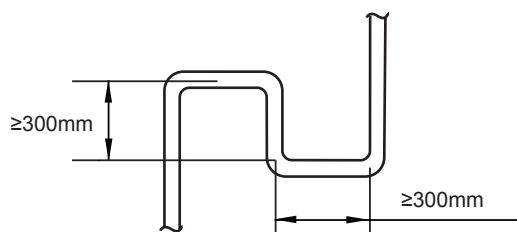

Figure 4.3
- When the outdoor unit is above the indoor unit, and the level difference exceeds 20 m, it is recommended that an oil return bend be set up at every 10 m interval on the gas pipe of the main piping. The recommended specifications of the oil return bend are as shown in figure 4.3.
- Requirement 3:** The largest level difference between indoor unit and outdoor unit should not exceed 90m (if the outdoor unit is above) or 110m (if the outdoor unit is below). Additionally: (i) If the outdoor unit is above and the level difference is greater than 20m, it is recommended that an oil return bend with dimensions as specified in Figure 4.3 is set every 10m in the gas pipe of the main pipe; and (ii) if the outdoor unit is below and the level difference is more than 40m, the liquid pipe of the main pipe (L_1) should be increased one size.